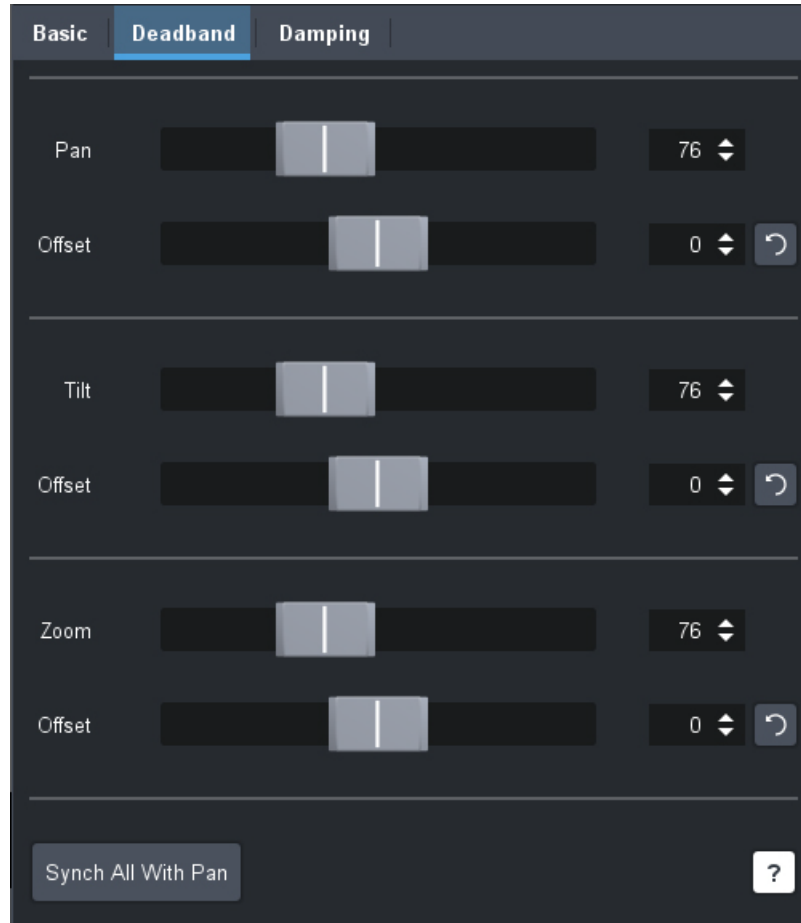

Figure 65 - Adjusting Deadband Settings
1. In the **Options** area, on the **Deadband** tab (Figure 65), use the **Pan** slider or the number box beside it to adjust the deadband size value for the **Pan** axis.